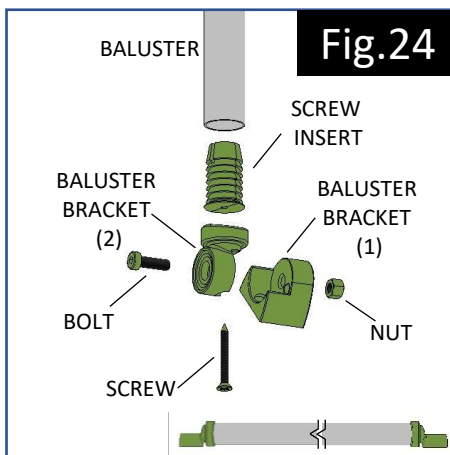

Fig.24
Insert screw insert into tube end. Offer baluster bracket (2) to tube ends and secure with screw supplied ensuring they are aligned to each other by lying them on flat surface before fully tightening. Attach brackets (1) to each end using nut and bolt supplied but do not overtighten (**Fig.24**)
To install stair balusters, follow instructions covered by **Figs 24 to 31** in Post to Post section